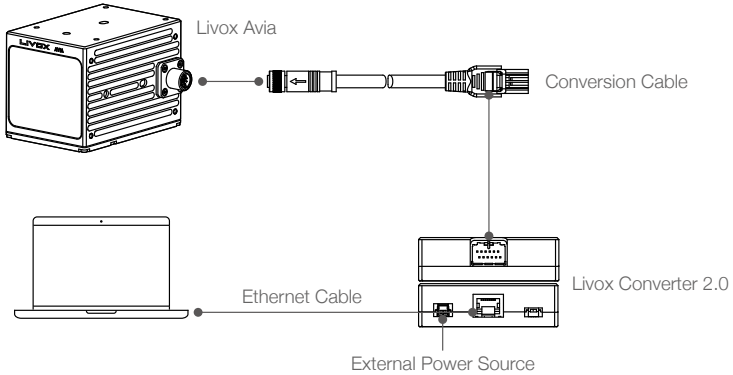

Figure 4.2.1 Connecting using static IP address
2. Connect the Avia, Livox Converter 2.0, external power source, and computer by following Figure 4.2.1.
1. Follow Figure 4.2.1 to connect the Livox Avia, Livox Converter 2.0, external power source, and computer.